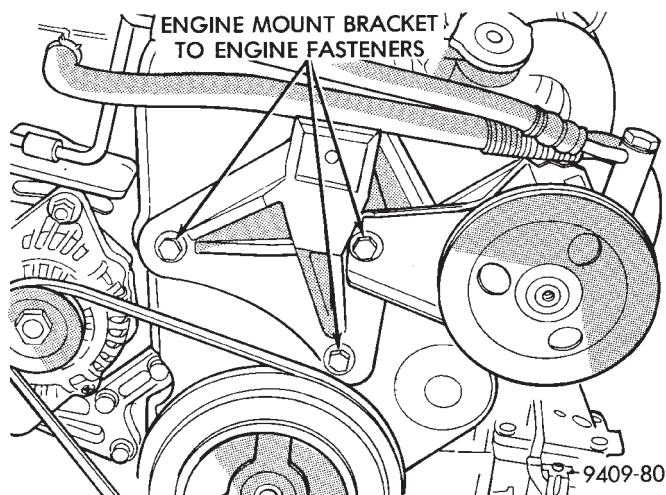

Fig. 43 Right Engine Mount Bracket
- (4) Lower vehicle and place a jack under engine.
- (5) Remove right engine mount. Refer to procedure outlined in this section.
- (6) Remove power steering pump assembly and set aside.
- (7) Remove right engine mount bracket (Fig. 43).